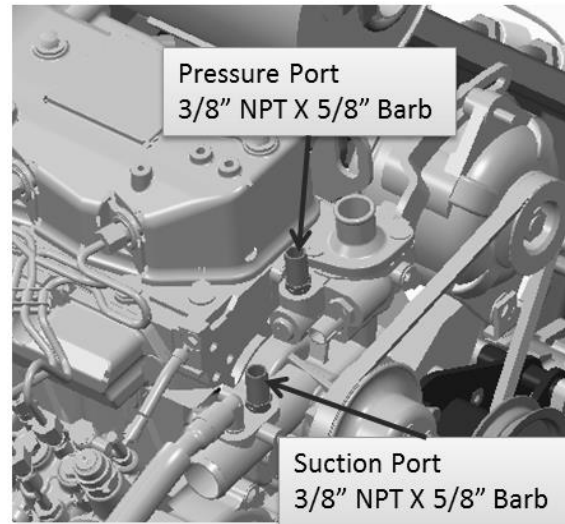

Figure 2
4. Barb Fittings [3/8" NPT X 5/8" Barb] are assembled on the Engine as shown in Figure 2.